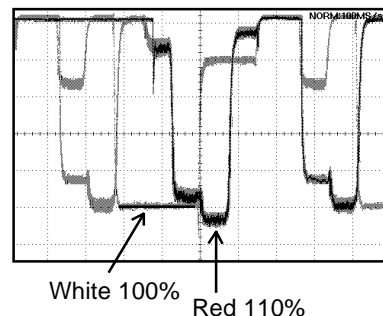

Fig. 2-2
9. Press the VOL. UP/DOWN button on the remote control until the red color level is adjusted to $110 \pm 5\%$ of the white level. (**Refer to Fig. 2-2**)